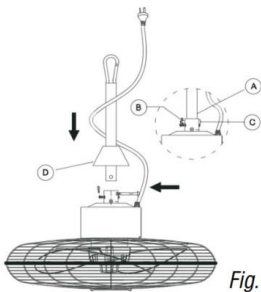

Fig. 3
1. Insert the downrod hook assembly (A) through the coupling cover (B) and into the coupling (C). Tighten the downrod hook assembly into the coupling with the cross pin (B), then slide the coupling cover into place (Fig. 3).